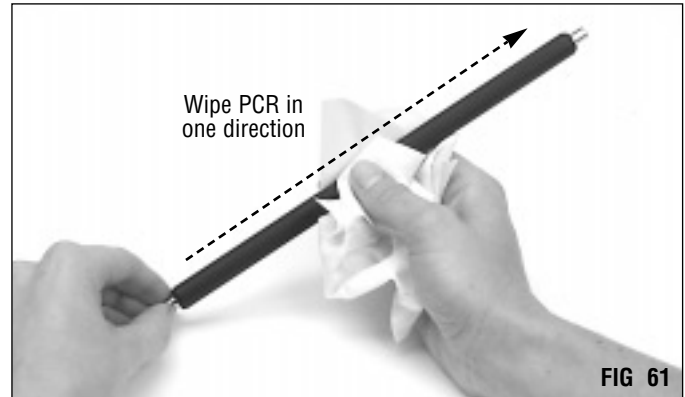

FIG 61
5. **Clean and inspect the PCR. (FIG 61)**